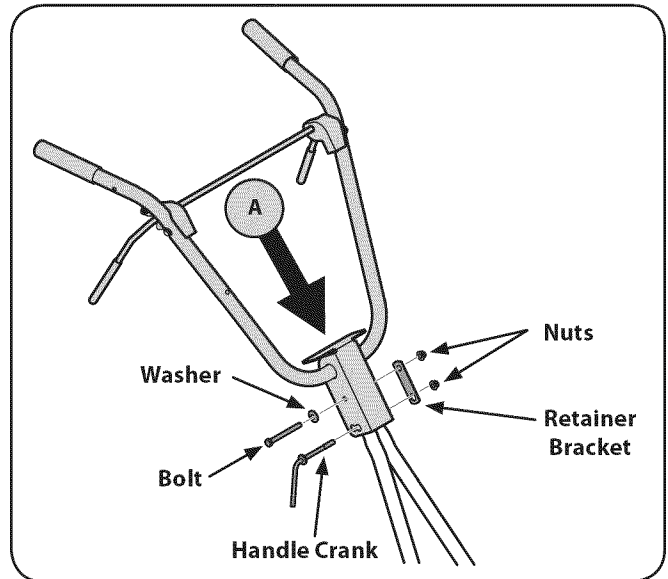

Figure 3-2
2. Position the upper handle onto the lower handle, Step A in Fig. 3-2. Align the holes on the lower handle with the holes on the upper handle.
3. Insert bolt, washer, and handle crank through the holes in the handle and secure with retainer bracket and nuts. See Fig. 3-2.